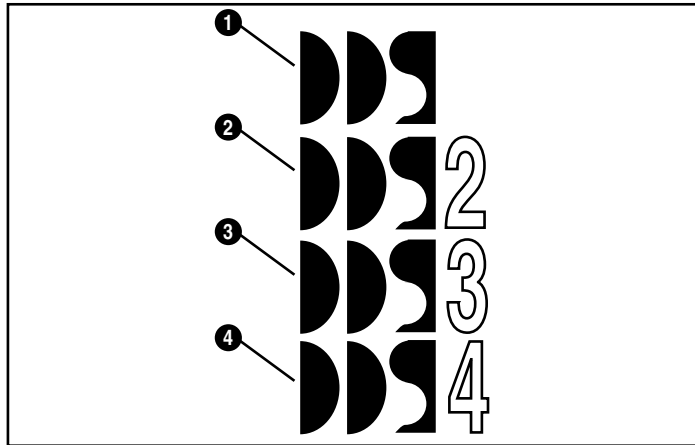

Figure 1-2. DDS Logo Media
To identify computer-grade DDS media easily, look for the DDS logos (See Figure 1-2), including ① DDS-1, ② DDS-2, ③ DDS-3, and ④ DDS-4. These indicate that the media meets the DDS specifications laid down by the ECMA, ISO/IEC and ANSI standards.